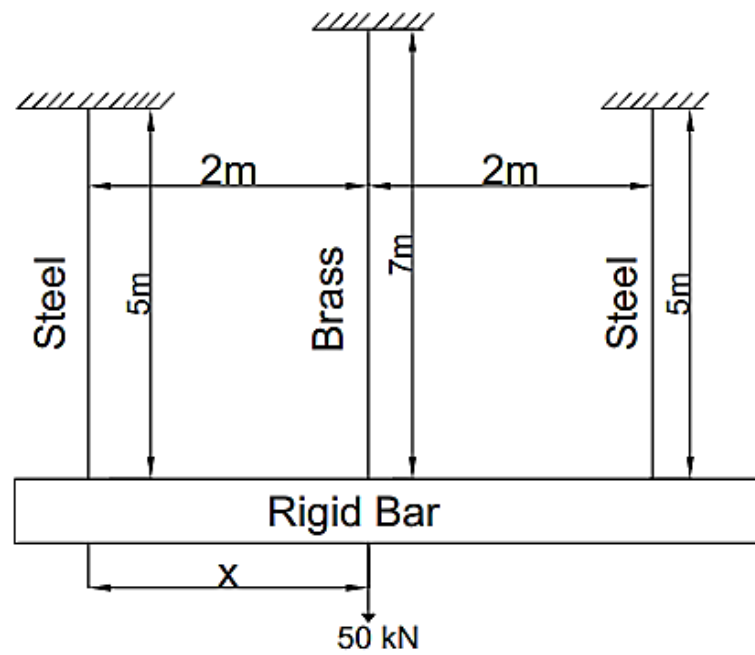

Fig. 3
3. (a) A rigid bar as shown in the Fig. 3 below is suspended by three vertical rods in a horizontal position. The cross sectional area of brass bar 10 mm^2 and modulus of elasticity is $1 \times 10^5 \text{ MPa}$. The steel bars have cross sectional area 5 mm^2 and modulus of elasticity is $2 \times 10^5 \text{ MPa}$. Find out stresses in these bars and the distance 'X', where the 50 kN load may be applied by keeping the bar horizontal. Compare the role of centralized control in traditional and distributed databases.